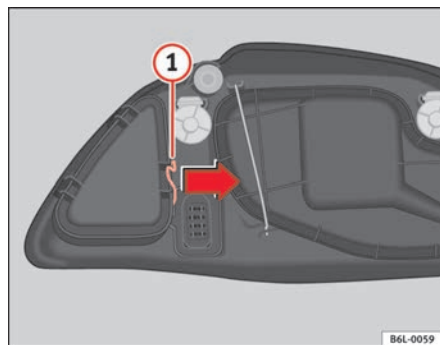

Fig. 156 Indicator lights
- Remove the loops (1) ⇒ fig. 156 in the direction of the arrow and remove the cover.